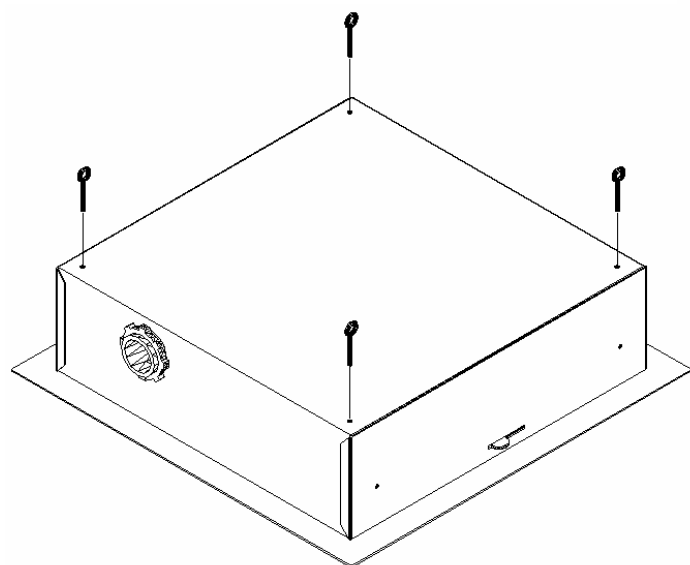

Figure 2 - Hardware installation.
Step 2 – Place the *ceiling enclosure assembly* on the work surface. Install the 4 eye bolts from the topside of the access point enclosure. The *eyebolts* will be used to secure the enclosure with grid wires. Remove one of the 1" trade size hole cover on the side of the enclosure and install the 1" conduit nipple (the side on which the conduit nipple is to be installed will be determined by the location the enclosure is to be installed and direction from which conduit will be brought into the enclosure – ref. *Figure 2*).